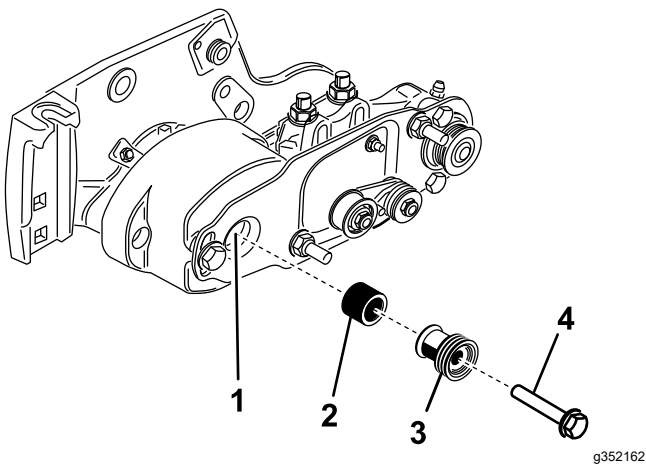

Figure 15
19. Insert the spacer onto the shaft in the bearing housing (Figure 15).
20. Insert the drive pulley into the spacer and onto the drive shaft (Figure 15). Make sure that the pulley tabs are positioned in the slot in the drive shaft.
21. Secure the pulley and spacer to the drive shaft with a flange head bolt (3/8 x 2 inch) (Figure 15). Torque the bolt to 47 to 54 N-m (35 to 40 ft-lb).